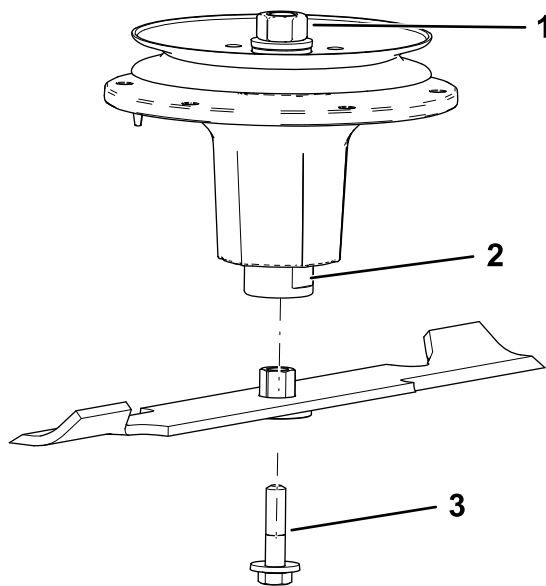

Figure 94
2. Install the bushing/blade assembly into the spindle shaft (Figure 94).